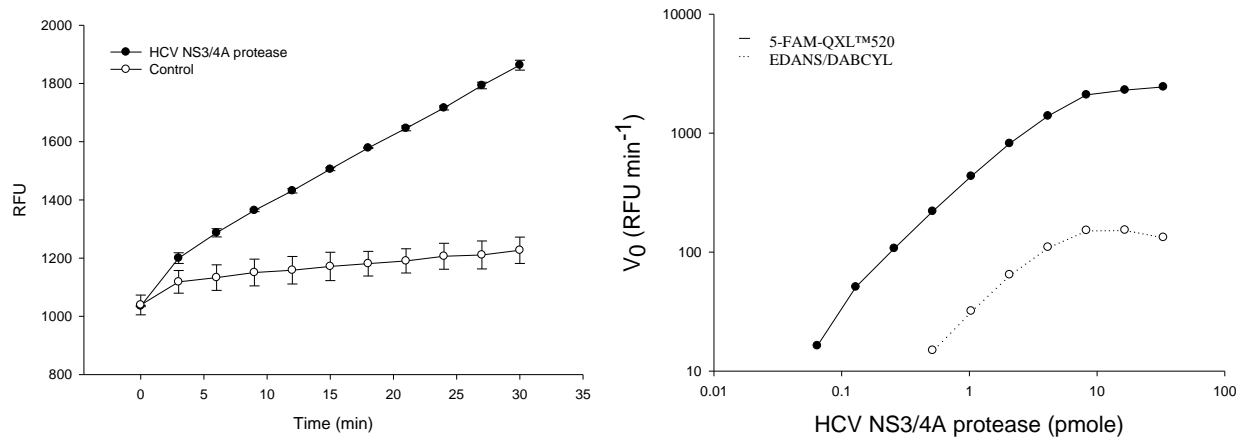

Figure 2. Proteolytic cleavage of 5-FAM/QXL™520 FRET substrate by HCV NS3/4A protease
- Plot data as RFU versus time for each sample (**Figure 2**). To convert RFU to concentration of the product of enzymatic reaction, please refer to Appendix II (setting up fluorescence reference standard).